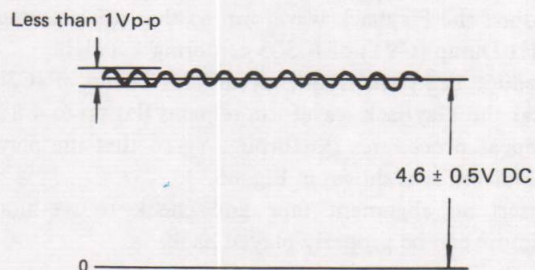

Figure 64
- ① Place the VTR in the REC mode.
- ② Observe the power supply hybride IC (I903) AK-Pin ⑤ through the oscilloscope and check to see that the voltage at the relay positive terminal and the ripple waveform remain in the value shown in Fig. 64.